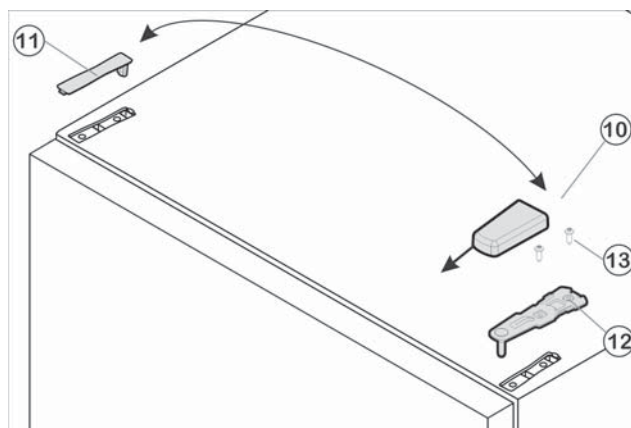

Fig. 20
► Pull cover *Fig. 20 (10)* forward and then upwards to remove.
► Lift off cover *Fig. 20 (11)*.
► Unscrew upper bearing bracket *Fig. 20 (12)* (2 x Torx 25) *Fig. 20 (13)* and pull it upwards to remove.
- Insert the upper bearing bracket Fig. 20 (12) on the new hinge side into the door.
- Secure the upper bearing bracket Fig. 20 (12) **tightly by applying a torque of 3 lb-ft (4 Nm)** (2 x Torx 25) Fig. 20 (13). Make preliminary holes (optional) or use a cordless screwdriver.
- Snap both cover Fig. 20 (10) and cover Fig. 20 (11) into place on the opposite side.